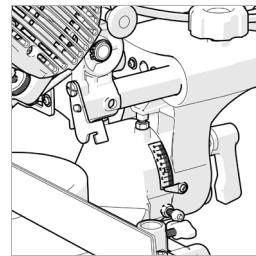

Fig. 12
- Ensure that the Cutting Head is upright, against its stop and the bevel pointer is indicating 0° on the scale. (**Fig. 12**)